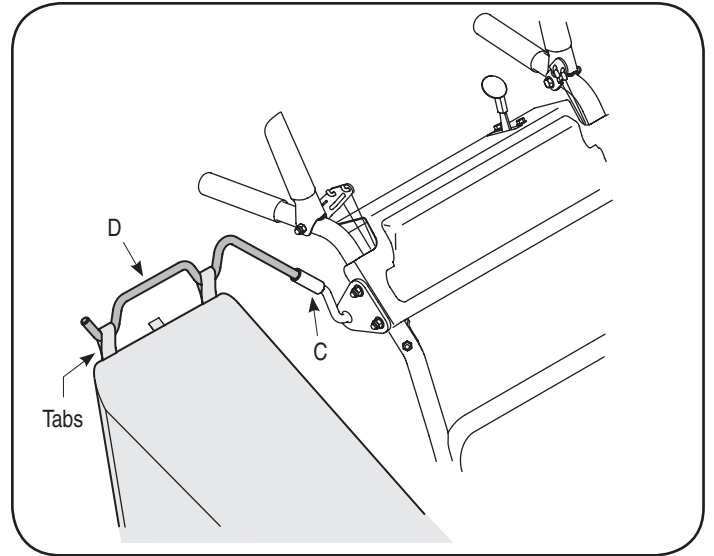

Figure 8
1. Insert rod hanger [D] into the opening in the rod assembly [C], Figure 8.
2. Slide the tabs on the grass bag over the bag hanger rod, Figure 8.